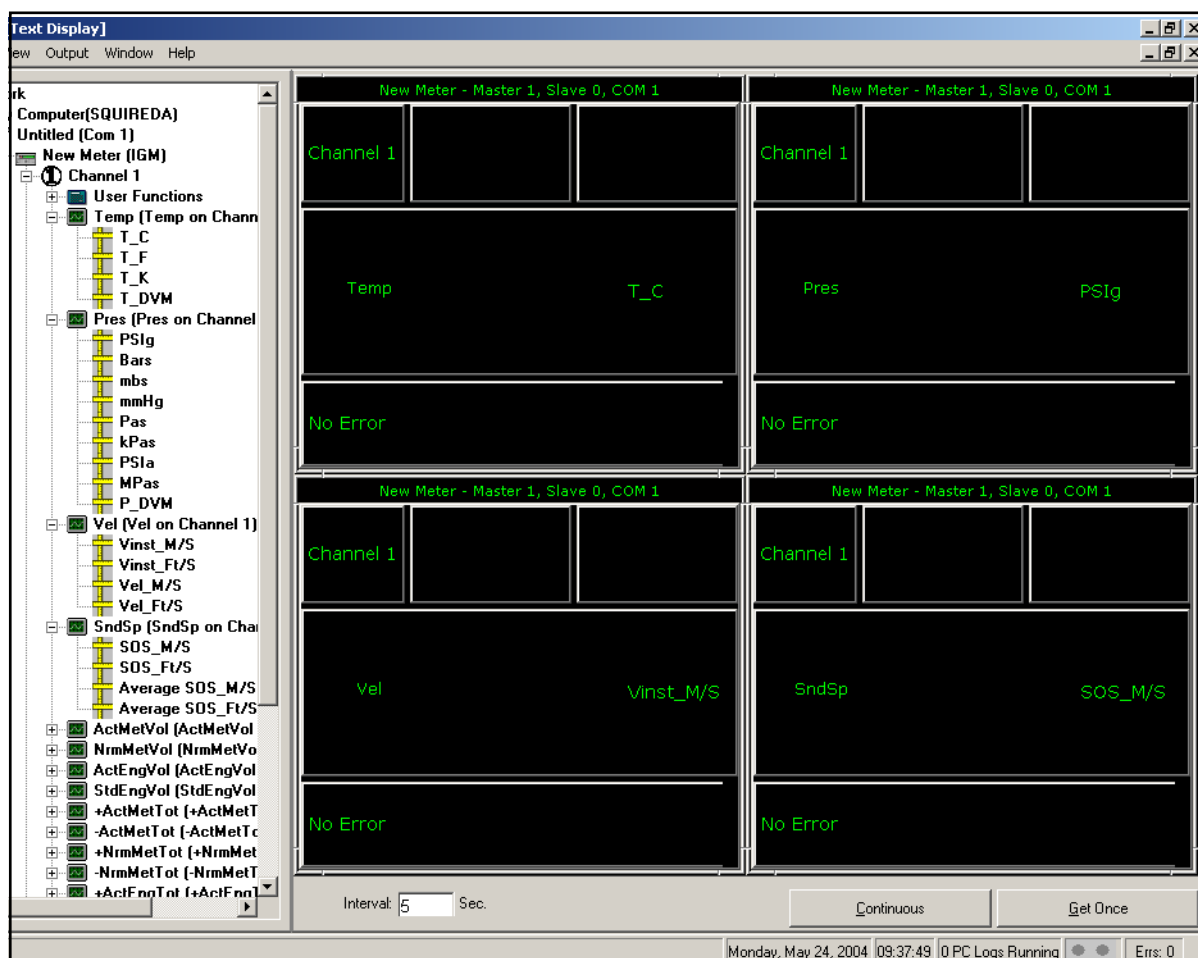
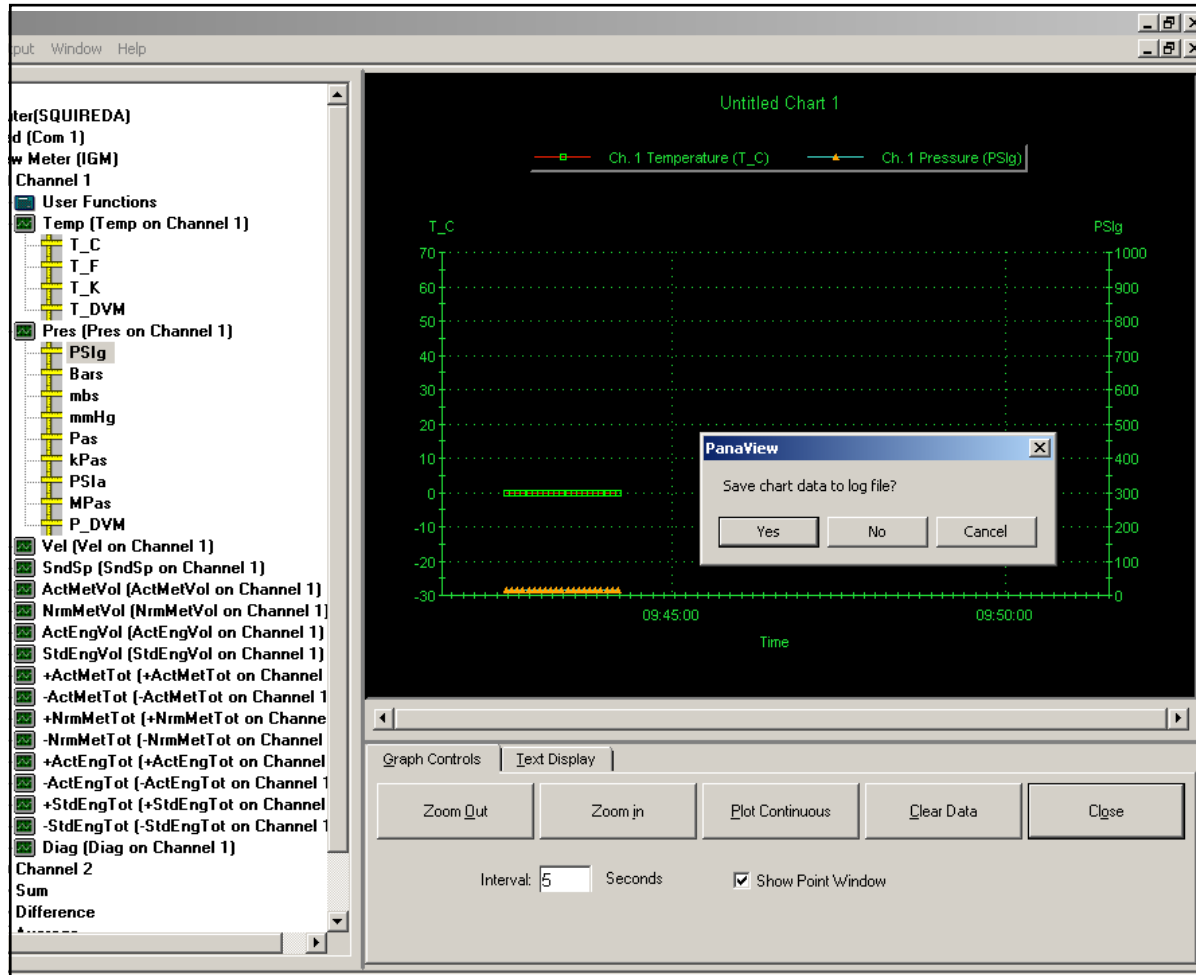

Figure 61: PanaView Measurements Display in Text Format
Figure 62: PanaView Measurements Display in Graph Format
6. Double click on the measurement(s) desired and, depending on the number of parameters chosen and the format that was selected in Step 3, a display similar to either that shown in *Figure 61* below or *Figure 62* on page 74 will appear